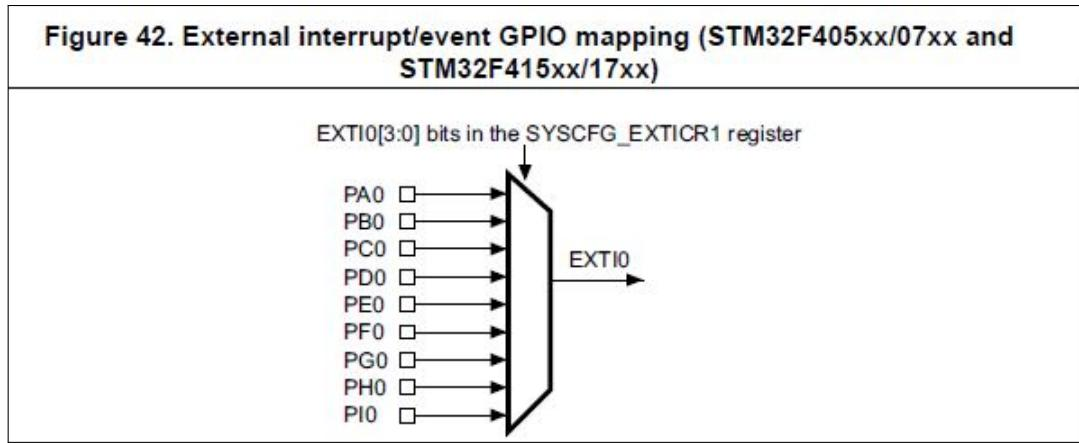

Figure 6.2: EXTI engine of stm to handle GPIO interrupts
To understand the GPIO interrupts deliver, we go 12.2.5 in the reference manual, figure 42 (shown in Figure 6.2)
- Remember also that the mapping between pin number from a **GPIOx** and **EXTI** is done via **SYSCFG** (system configuration controller). This is shown also in Figure 6.2